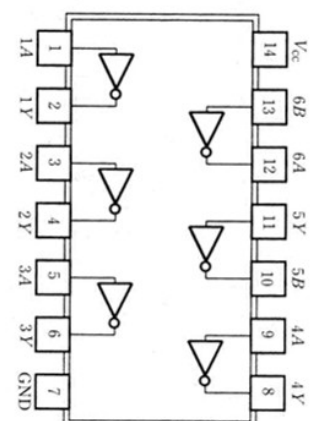

Fig. 3
- (i) Wire the inverter circuit of Fig.1. Note that this is one of the gates of the 7404 Hex Inverter IC, as shown in Fig. 3.